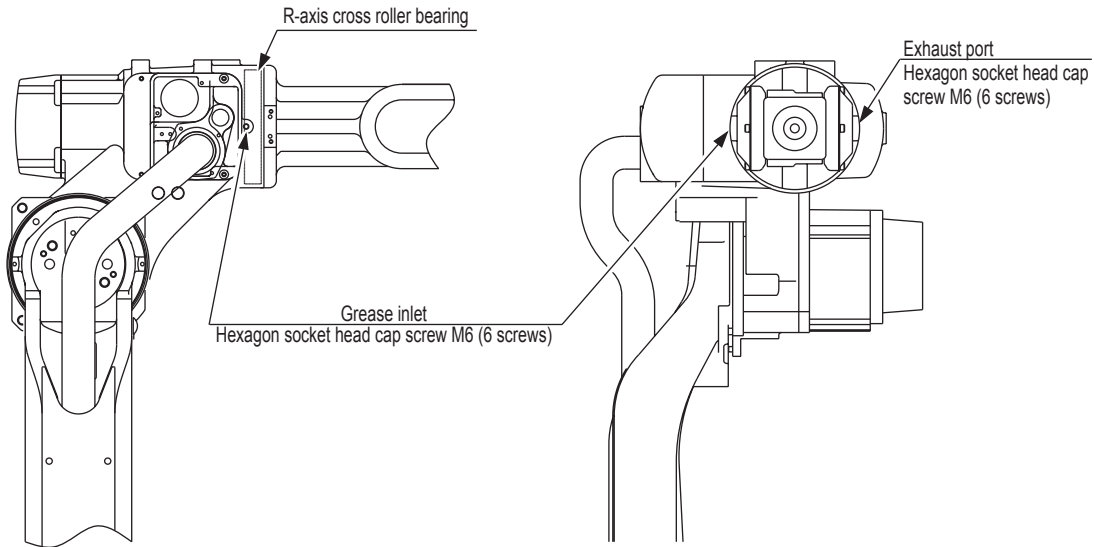

Fig. 34 R-Axis Cross Roller Bearing Diagram
3. Inject grease into the grease inlet using a grease gun. (Refer to " Fig. 34 R-Axis Cross Roller Bearing Diagram ").